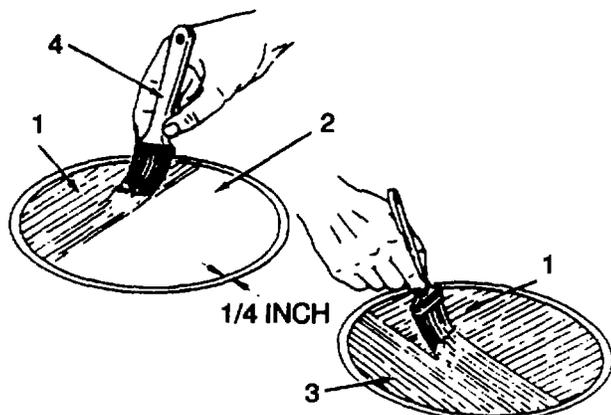

Figure 2-32. Applying Adhesive Over Previous Coat
(h) Apply a uniform coat of barrier adhesive (item 2, table 2-11) (1, figure 2-32) in one direction over previous coat of repair adhesive (2) to within no more than 1/4 inch of repair area of O.D. Use a brush. Remove any excess adhesive from unbuffered area. Use dean cloth (item 16, table 2-11) dampened with acetone (item 3, table 2-11). Wear gloves (item 4, table 2-11). Allow barrier to dry to touch.
(j) Carefully apply a uniform coat of barrier adhesive in one direction (1, figure 2-32) over previous coat of repair adhesive mixture (2). Use a brush (4). Remove any excess adhesive from unbuffed area. Use a dean cloth (item 16, table 2-11) and acetone (item 3, table 2-11). Wear gloves (item 4, table 2-11). Allow barrier to dry to touch.